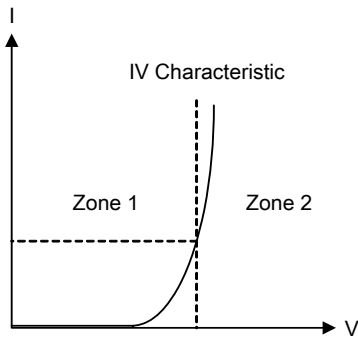

Figure 12
Enough bias current is required for a Schottky to act like a voltage source. Users should choose the appropriate R_{CS} based on the IV characteristic of the diode (Figure 12)
According to Figure 12, the forward voltage of diode will be different results from the different conduction current. So when the characteristic of diode in the circuit you design is in zone 1, this will result in Spec. mis-met. It is because when the V_{CORE} is changed during DVID, the node $V_{CORE} - V_F$ is also changed to produce the differential conduction current of diode ΔI and the ΔI will result in producing the differential forward voltage of diode ΔV_F . Referring to Equation (1). The ΔV_F would get ΔI_X . Then the V_{CORE} must be subtracted the extra voltage $V_{(EXT)}(\Delta I_X \times R_{ADJ})$ during DVID. So you will get the $\Delta V_{CORE} = V_{(MAX)} - V_{(MIN)} - V_{(EXT)}$ during DVID tests. In order to reduce the effect results from diode. The better choice is to decrease the R_{CS} to increase the conduction current of diode I to get better V characteristic of diode in Zone 2.